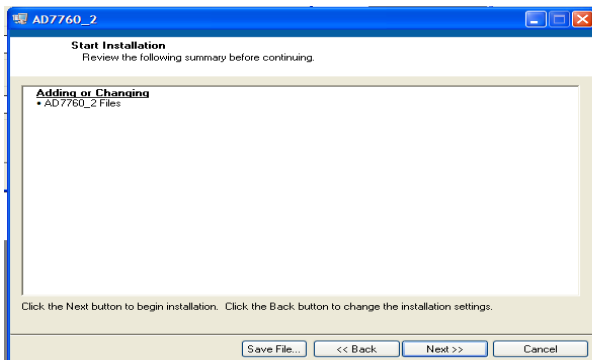

Figure 5. EVAL-AD776xEDZ Install actions
5. To start the installation, click the “Next” button as shown in Figure 5, this window details the actions of the installation.